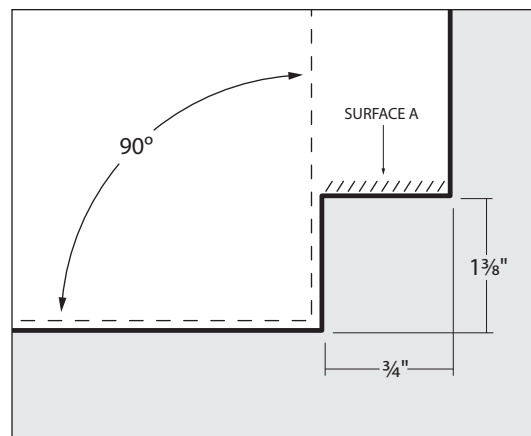

FIGURE 2. Make sure the cutout is marked at 90° to the front edge.
- + It is important that surface A (Fig. 2) is flush with or slightly back from the fascia of the cabinet. If it is not then the sink's apron will not sit flush against the cabinet.
- + It is very important that your cutout is marked at 90° to the front edge of the countertop. (Fig. 2)